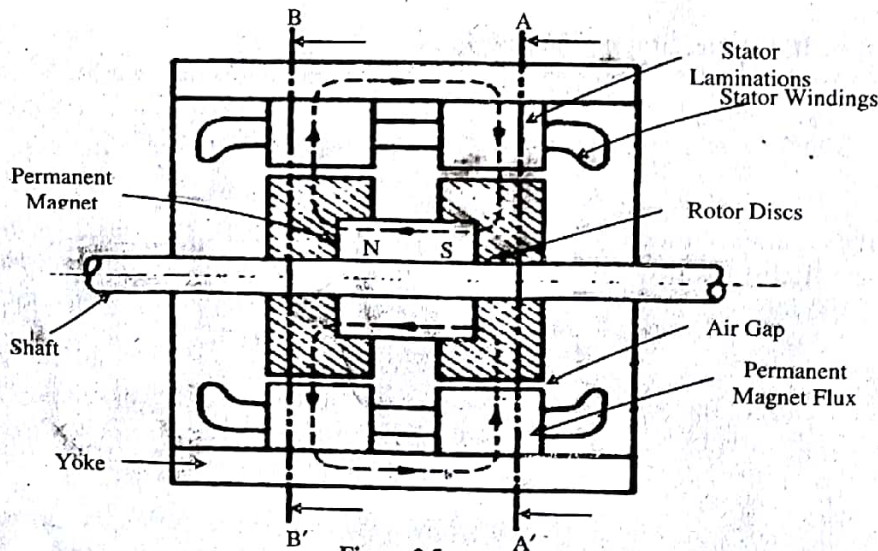

Figure 2.5
The word Hybrid means combination or mixture. The Hybrid Stepper Motor is a combination of the features of the Variable Reluctance Stepper Motor and Permanent Magnet Stepper Motor. In the centre of the rotor, an axial permanent magnet is provided. It is magnetised to produce a pair of poles as North (N) and South (S) as shown in the figure 2.5.